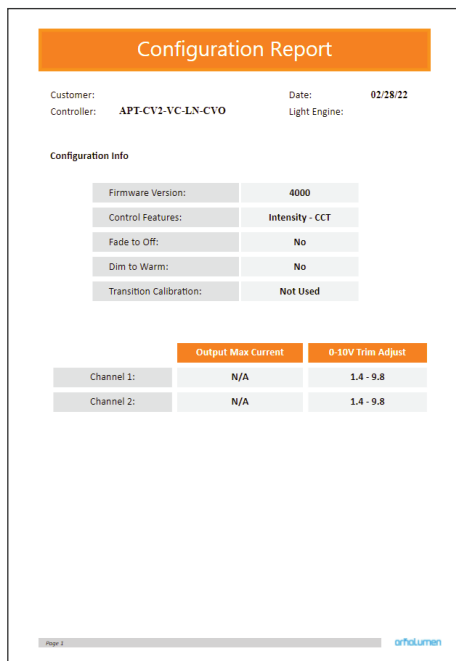

Figure 20: Example of the first page of a generated report
- 5 Click **Generate Report**, the default web browser will open and display a preview of the print (shown in Figures 20 & 21).